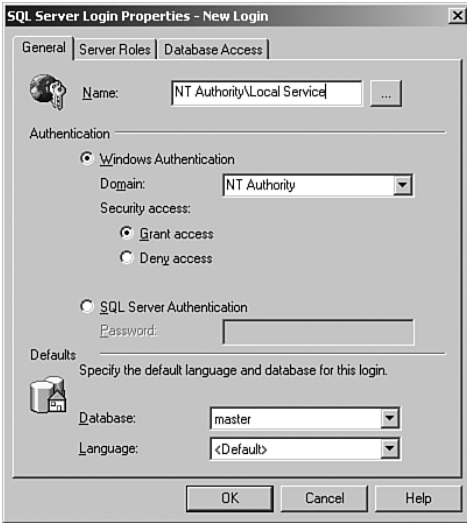

FIGURE 11.2 The General tab for new login in the SQL Server Enterprise Manager.
1. If you are using SQL Server 2000, open SQL Enterprise Manager and navigate to the Security folder for the appropriate SQL instance. Right-click the Logins folder, selecting New Login. On the General tab, type the name **NT Authority\Local Service**. Figure 11.2 displays the General tab of the SQL Server Login Properties box with the Local Service account.